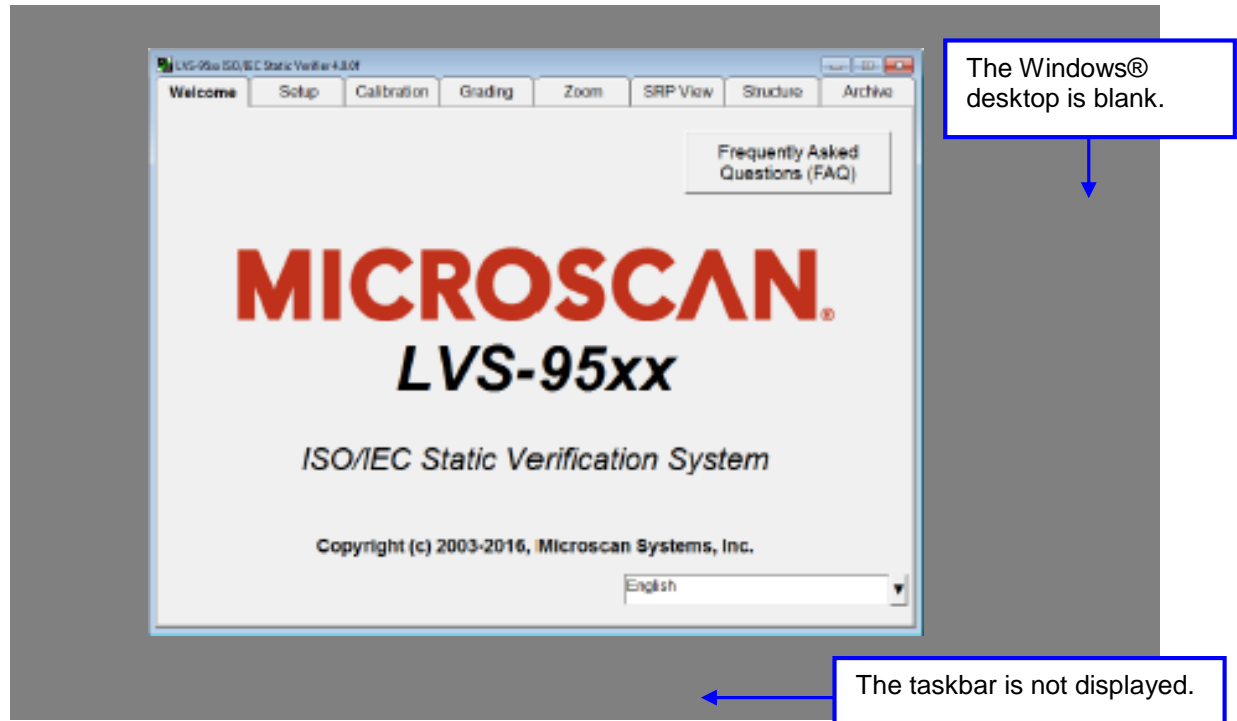

Figure 50: Example of lockdown mode
13. The computer is in lockdown mode when restarted and all Windows® desktop functionality is disabled. For example, the desktop appears blank and no taskbar appears at the bottom of the screen (Figure 50).